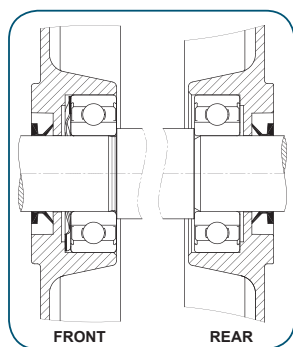

FIGURE: 22
Fixed-ball bearing, whose both sides are closed (ZZ), are used in motors with frame sizes 63-132 (Figure 22) as well as frame sizes 160-225 (Figure 22).